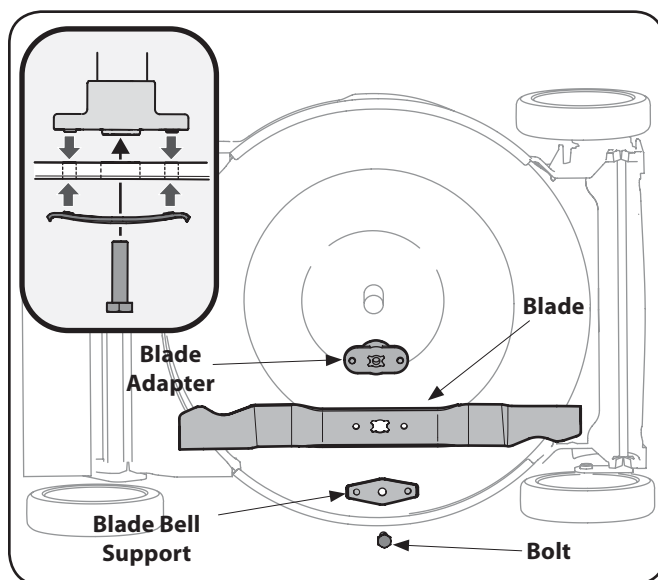

Figure 7-1
2. Remove the bolt and the blade bell support which hold the blade and the blade adapter to the engine crankshaft. See Fig. 7-1.
5. Lubricate the engine crankshaft and the inner surface of the blade adapter with light oil. Slide the blade adapter onto the engine crankshaft. Place the blade on the adapter such that the side of the blade marked "Bottom" (or with part number) faces the ground when the mower is in the operating position. Make sure that the blade is aligned and seated on the blade adapter flanges. See Fig. 7-1 inset.